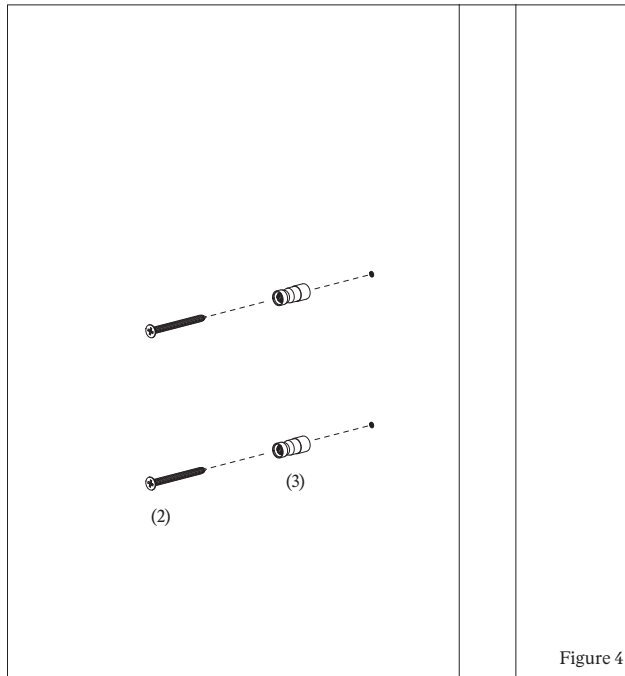

Figure 4
- 2.2 Drill appropriate pilot holes for the wood screws at each of the pencil spindle locations. (Figure 4)
- 2.3 Fit pencil spindles using wood screws provided. (Figure 4)